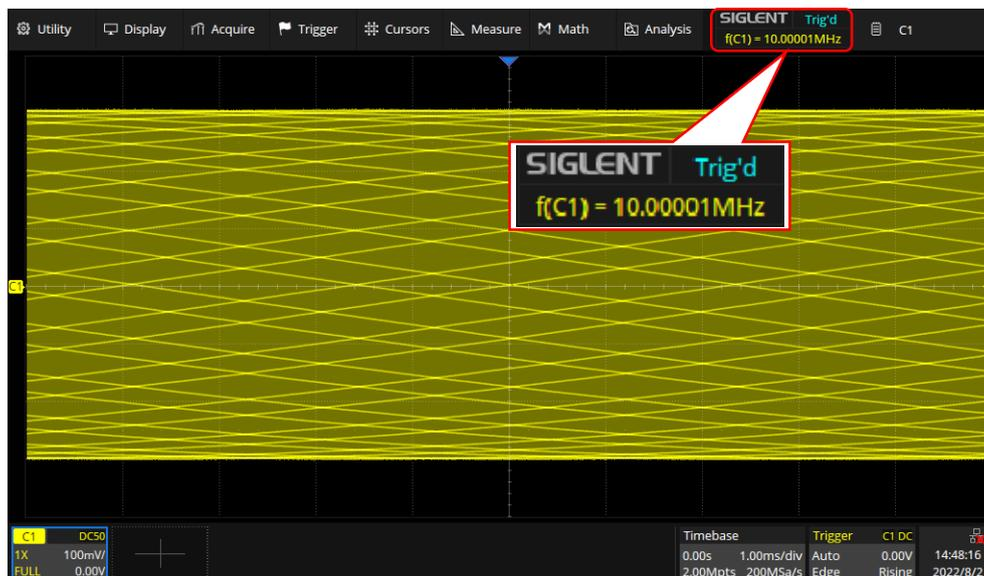

Figure 10
6. Adjust the trigger level within the waveform range and observe the (hardware-measured) frequency which is on the top right of the screen (as shown in Figure 10), and check if a level can be found to satisfy the frequency measured in Table 14.
5. Adjust the trigger level within the range of [-100 mV, 100 mV], observe the (hardware-measured) frequency which is on the top right of the screen (as shown in Figure 10), and check if a level can be found to satisfy the frequency measured in Table 14.
11. Adjust the trigger level within the range of [-500 mV, 500 mV], observe the (hardware-measured) frequency which is on the top right of the screen (as shown in Figure 10), and check if a level can be found to satisfy the frequency measured in Table 14.